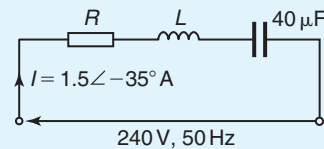

Figure 15.19
2. Find the values of resistance  $R$  and inductance  $L$  in the circuit of Fig. 15.19.